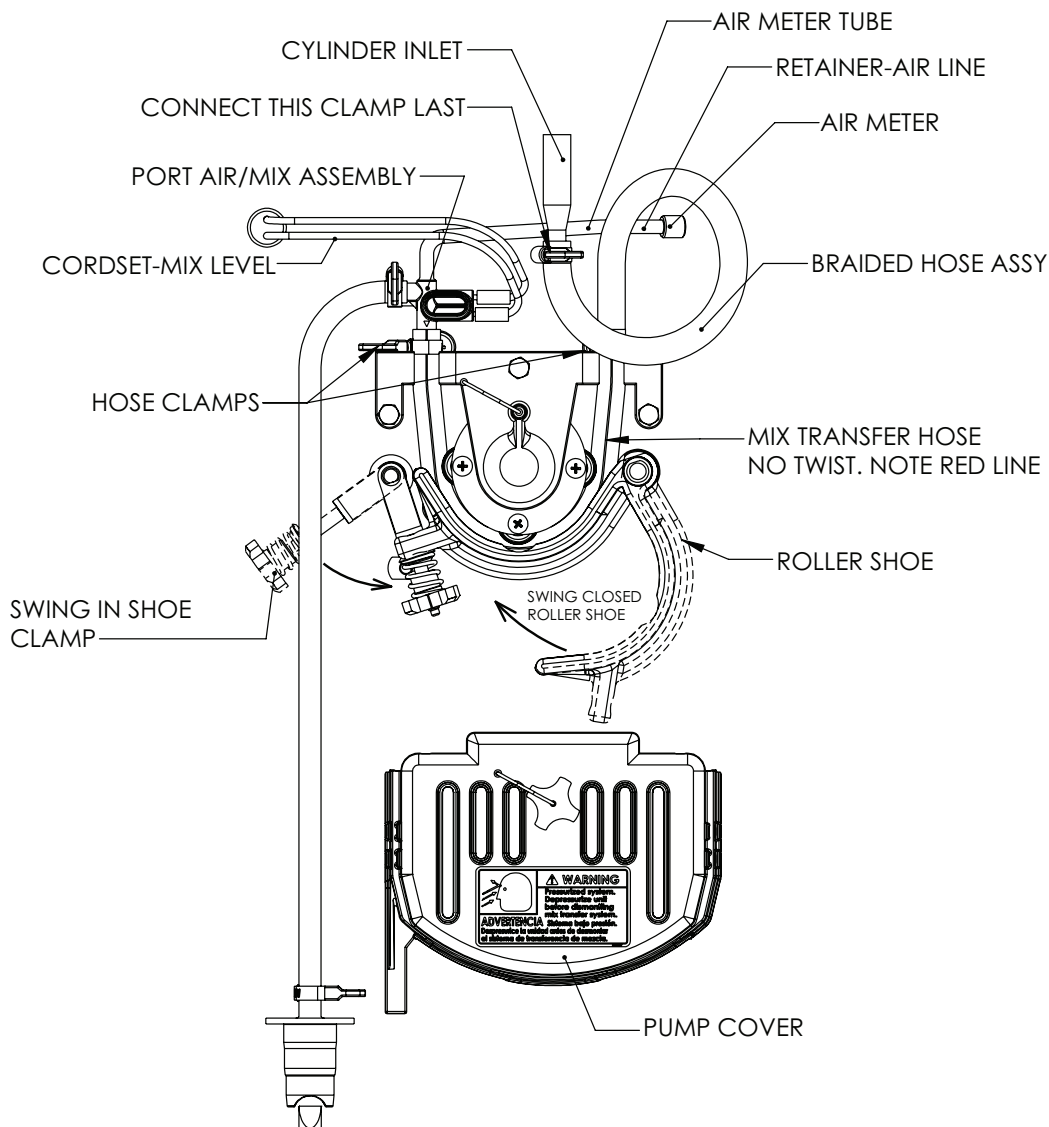

Figure 9-6 MTS
2. Install the cup seal and o-ring on the washer (see figure 9-6). Apply a light amount of approved sanitary lubricant (such as Lubri-Film Plus) to the o-ring and the face of the plastic washer opposite the bell portion of the seal. Do not allow any lubricant to come into contact with the bell shaped rubber portion of the seal.
18. Check to ensure the transfer hose is straight and centered on the roller assembly by observing the locating line. The line should be in the same position at the inlet and outlet guides of the roller bearing support, as shown in figure 9-6.
23. Install pressure relief hose on drain port and into the hole on top of the mix tank cover.(figure 9-6)